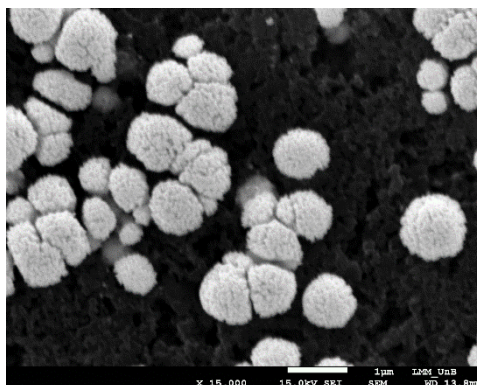
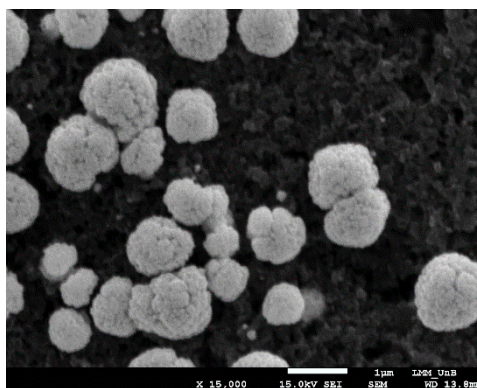

Figure S3. SEM image of the EG200300
Fig. S4. SEM image of the EG200200
- Image of the EG200300 (Figure S3) electrode that presented the biggest crystallite size for the EG materials. The structure resembles to EG160200, with a slightly larger agglomeration.
- Image of the EG200200 (Figure S4) electrode that also presented a large crystallite size. The structure resembles to EG160200 and Fig. S3, with a slightly larger agglomeration.